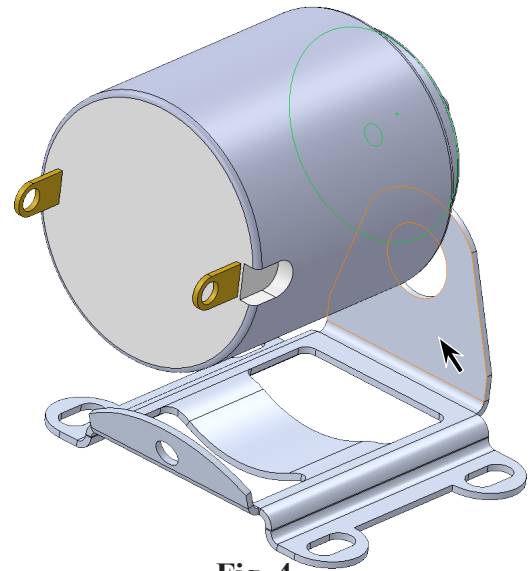

Fig. 4
Step 3. Rotate view to view **inside face of MMB**, Fig. 4.
Step 4. Click **inside side face of MMB**, Fig. 4.